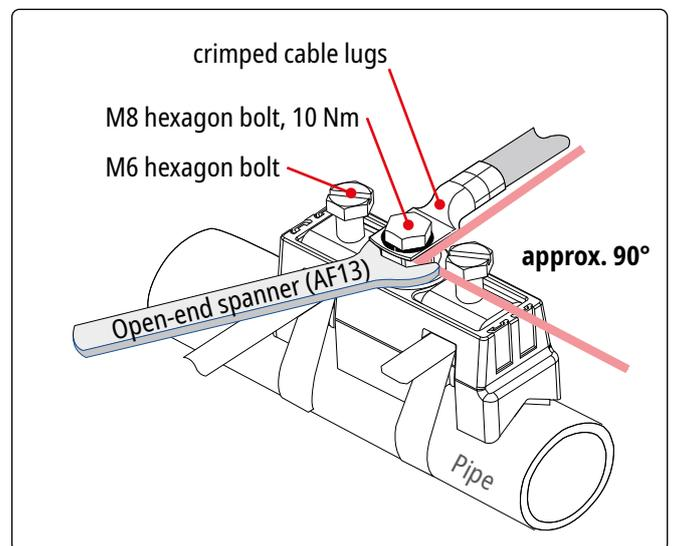

Fig. 3.4 Connection via crimped cable lug
- ➔ When connecting the conductors (via crimped cable lug) to the Ex-BRS 27 pipe clamp by tightening the M8 bolt, the contact pin must be held in place using an open-end spanner (width across flats 13) (**tightening torque 10 Nm**). It must be ensured that the conductor to be connected, including the crimped cable lug, does not contact the clamping unit (M6 hexagon bolt, grip head and tensioning strap) or the pipe (see Fig. 3.4).